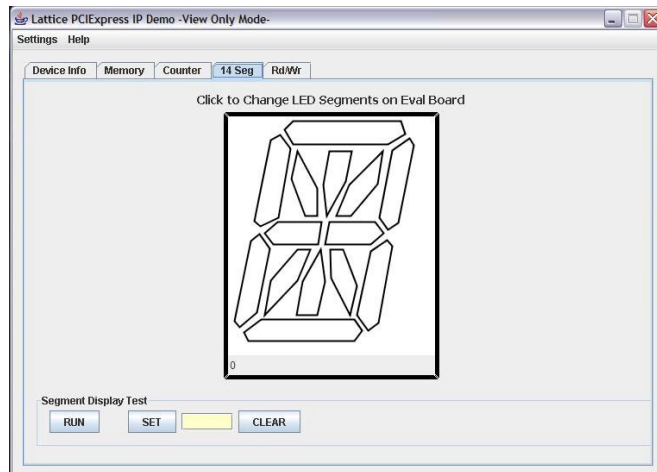

Figure 6.2. PCI Express Basic Demo 14 Segment Control Page
2. Click on the 14 Seg tab to see the contents of the 14 Segment Control page. In this page, you will be running a demonstration LED sequence and controlling the display on your board from this console. See Figure 6.2. The 14-Segment Control page provides a way to interactively light segments on the display. You can preset character sequences from this page or select single characters and run them to light the display.